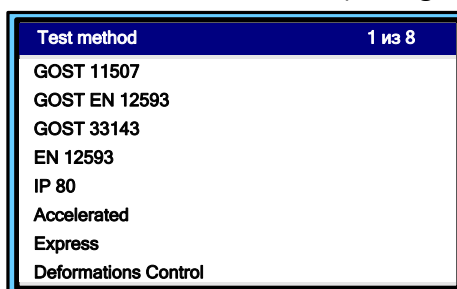

Figure 8 – The test condition selection menu
4.5.1.2 The tester goes to the test condition selection menu (see figure 8).